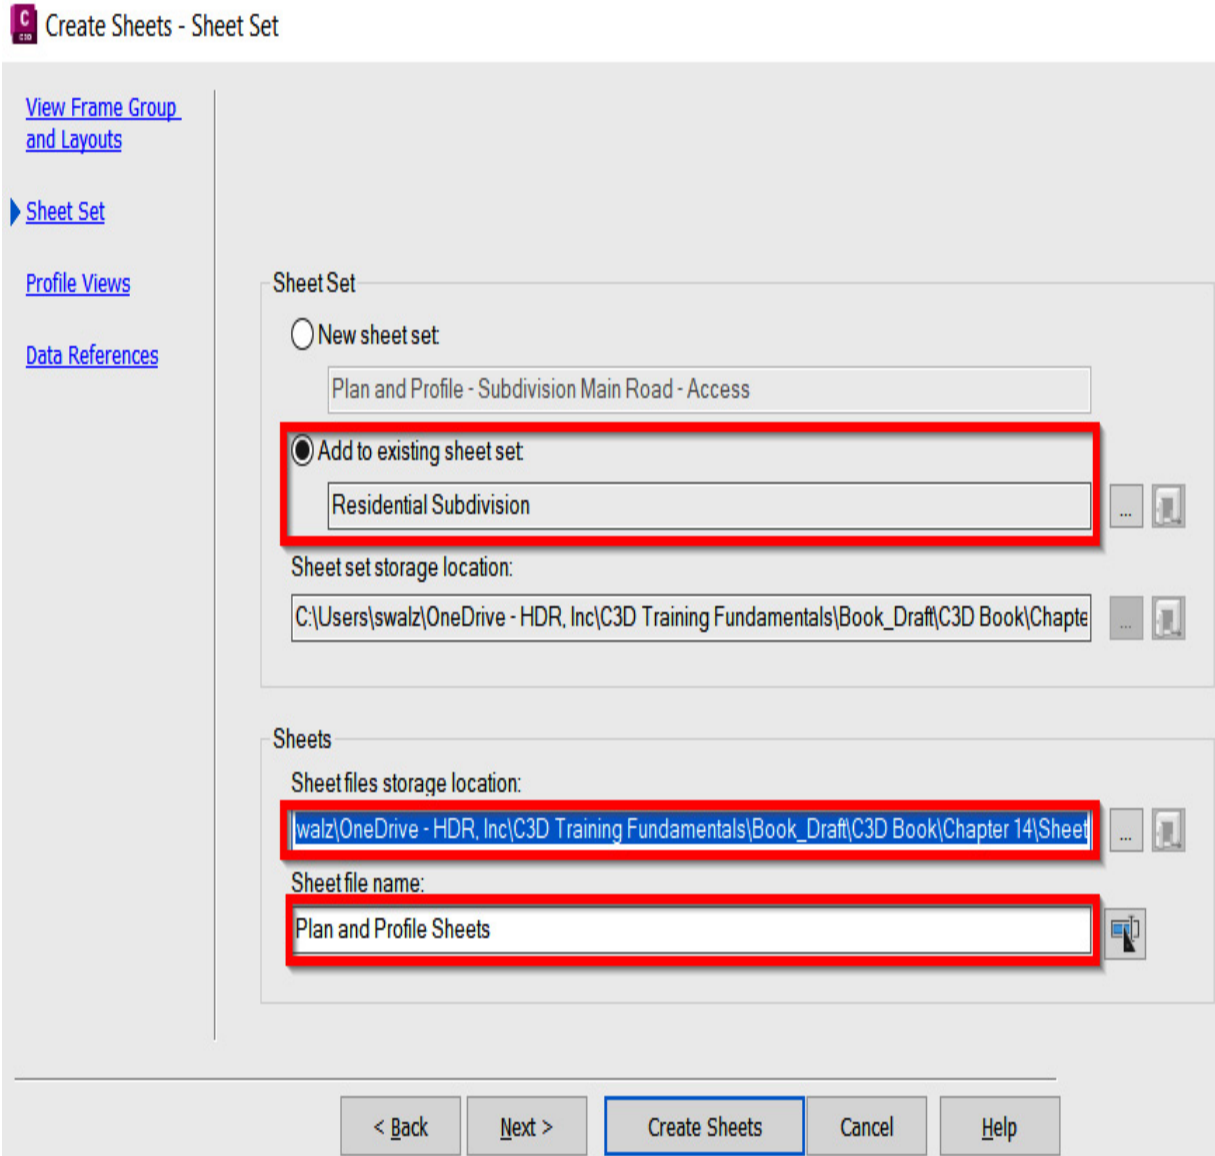

Figure 14.24 – Create Sheets dialog box – Sheet Set
**2. Sheet Set** (as displayed in *Figure 14.24*):